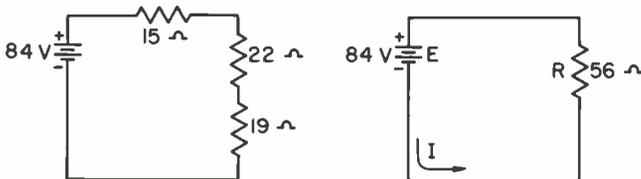

Fig. 23
1. (a) See Fig. 23(a). (b) $56\ \Omega$ (c) See Fig. 23(b).